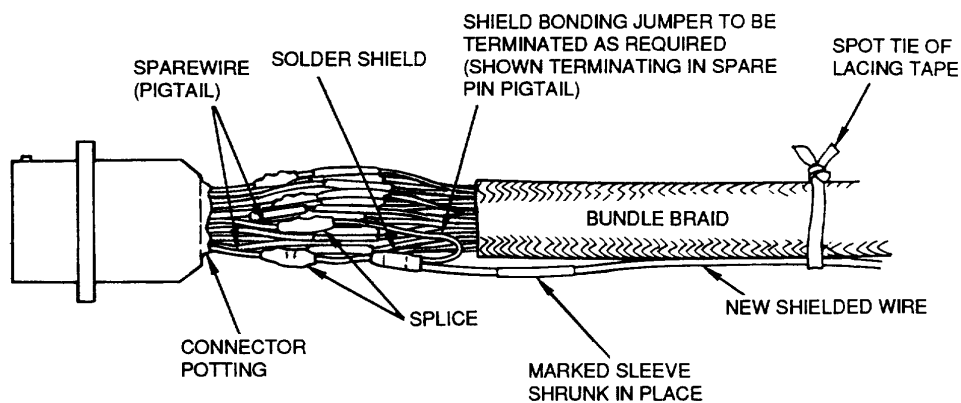

Figure 14. Adding Shielded Wire
20. **Adding Shielded Wires.** When shielded wires need to be added for changes or modification route parallel and external to the harness. Secure the added wires to the harness with lacing tape. The following procedures should be followed (Figure 14):